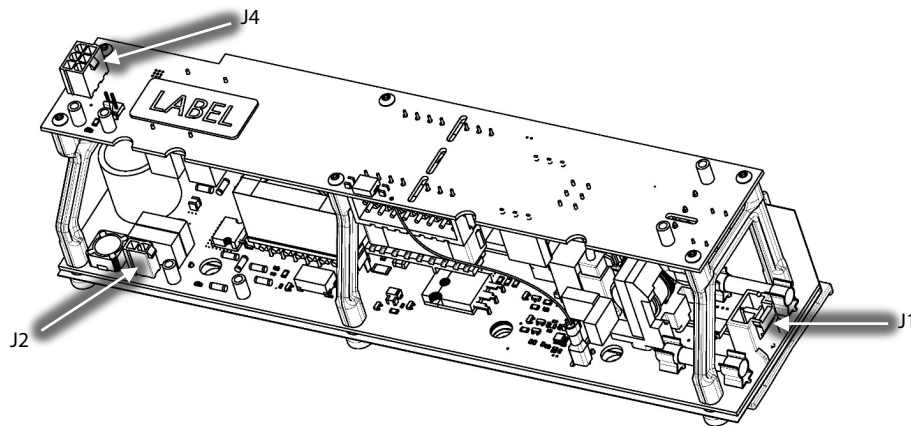

Figure 12 – DC-DC Converter Connector Locations
5. Remove the cable ties as necessary and adjust the DC-DC to Backplane Cable Harness so that you can connect to J4 (24VDC output) and J2 (250VDC Output) to the DC-DC Converter. Refer to Figure 12 (DC-DC Converter Connector Locations) for this and the following step.